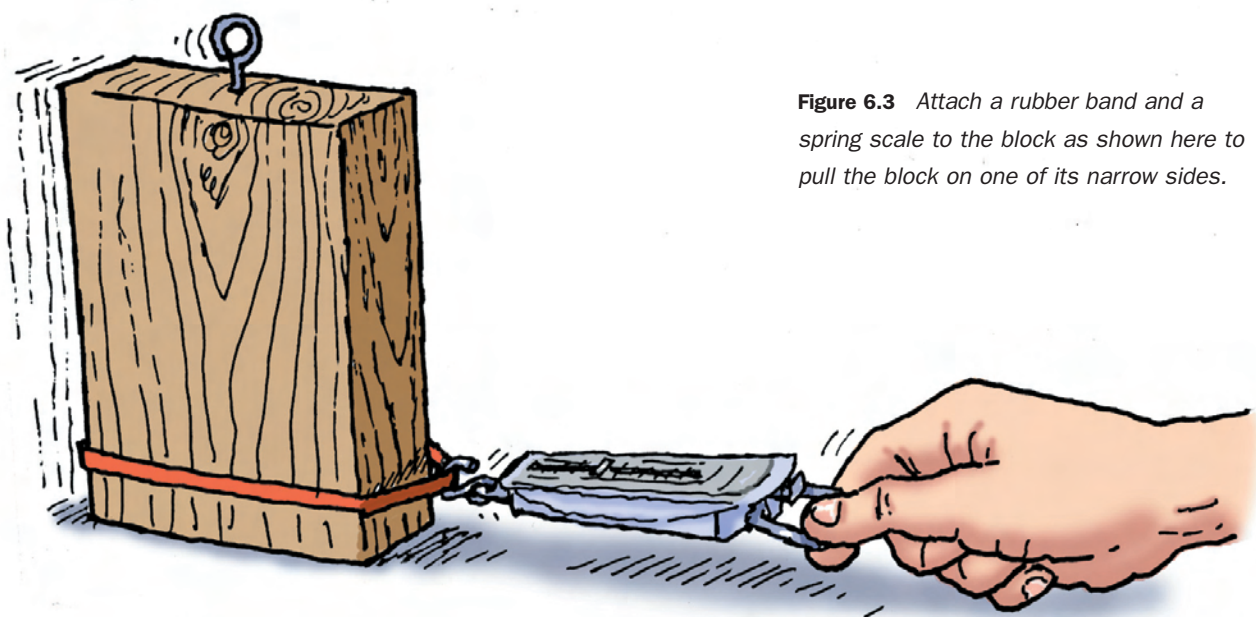

Figure 6.3 Attach a rubber band and a spring scale to the block as shown here to pull the block on one of its narrow sides.
3. Put a rubber band around the block so that it is below the center (about one-fourth of the way to the top of the block as measured from the table). Attach the spring scale hook to the rubber band and pull the block so that it moves smoothly across the table, as shown in Figure 6.3. Measure the frictional force as the block slides at a constant speed along the surface. Do this for each side of the block.